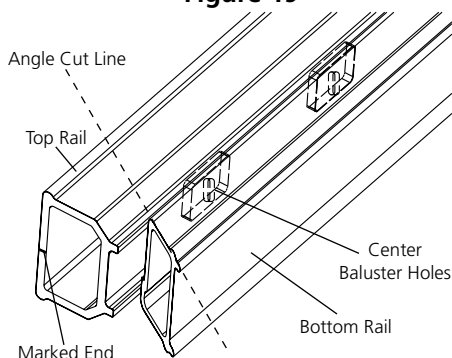

Figure 20
7. Place the top rail next to the bottom rail with the marked ends together (Fig 20). Using the bottom rail as a guide, center the larger routed holes in the top rail with the smaller routed holes in the bottom rail. Mark the cut lines on the top rail.